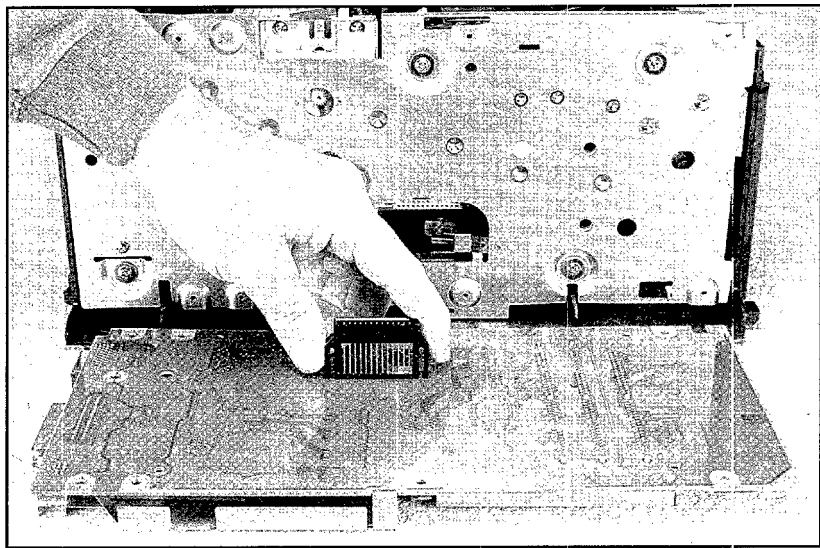

Figure 23 Removing the DC Controller Interconnect.
- 4.** Pull the DC controller interconnect out (Figure 23).